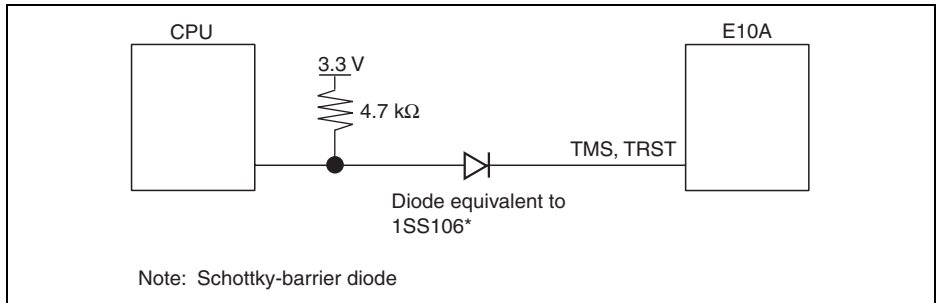

Figure 1.4 Countermeasure against the Leakage Current in the Emulator
9. When the power of the emulator is turned on (make sure that the emulator is inserted into the host computer and the power supply is turned on), and the target system (such as the system mounting the target device) is turned off, the power-supply voltage of the target device (target system) may become higher around 1.2 V to 1.4 V than the normal voltage due to the leakage current from the emulator. This is because TMS and TRST are driven to high by the emulator; the leakage current occurs from a TMS line before starting the emulator debugger (HEW), and from TMS and TRST lines through the CPU after starting the emulator debugger. Although the CPU will not be degraded or damaged, a power-on reset may be disabled. The power-supply voltage raised by the leakage current can be reduced to 0.2 V by inserting a diode in the output pins (TMS and TRST) of the emulator. For the type (type number) and the inserting direction of the diode, see figure 1.4.